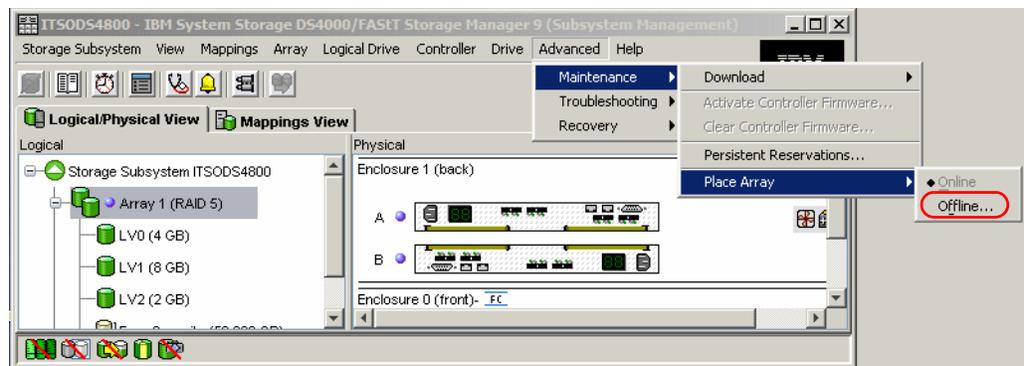

Figure 12-33 Setting an array offline
2. Select **Advanced** → **Maintenance** → **Place Array** → **Offline** from the Subsystem Management window, as shown in Figure 12-33.